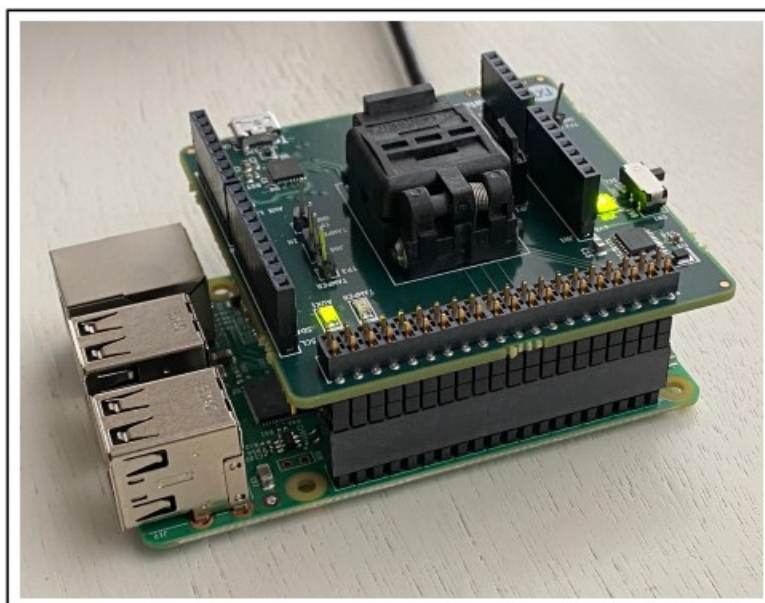

Figure 3. MAXQ1065 Socket Board Attached to a Raspberry Pi through an Elevated Header
4. Connect the MAXQ1065 socket board on top of the Raspberry Pi, as shown in Figure 3.